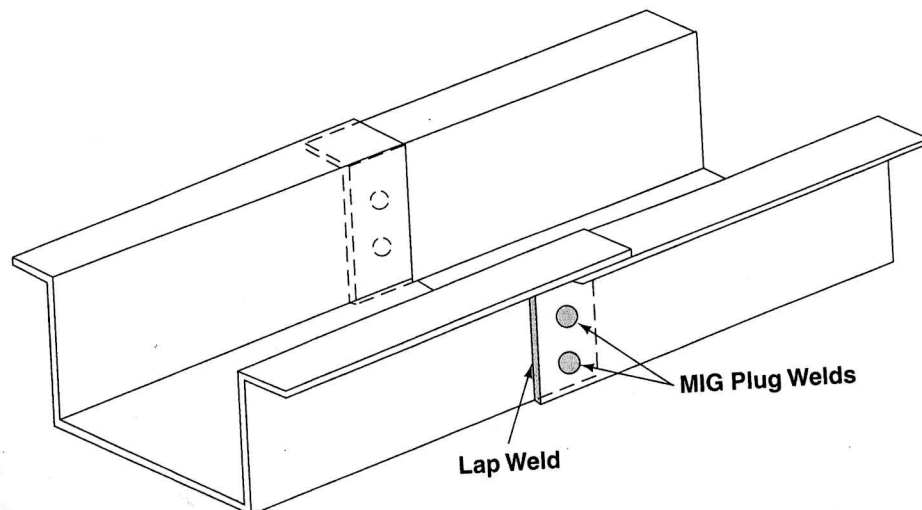

Figure 22-14 Lap joints should overlap about an $\frac{1}{4}$ inch to 1 inch (6–25 mm). Use both plug and continuous welds to join parts. (I-CAR)
1. Parts should be overlapped $\frac{1}{4}$ inch to 1 inch (6–25 mm) as specified. See Figure 22-14.